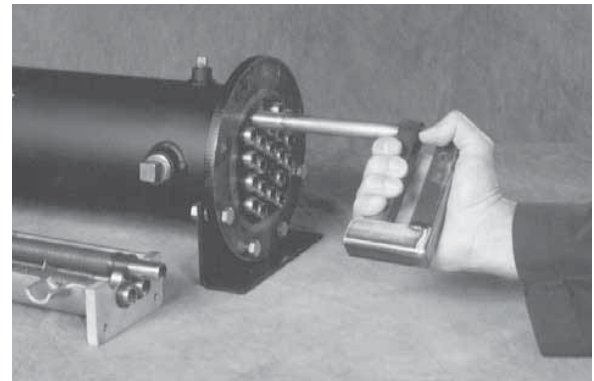

Fig. 2 Long end
4. Insert the installation and removal tool P/N 248622 into a tube from the long (L) side. Make sure that the tool's shoulder contacts the tube. Grip the tube by squeezing the tool's handles together. Using a twisting motion, pull the tube until the short (S) end of the tube (opposite end) is pulled completely out of its seal (see Fig. 2). Repeat for each tube.